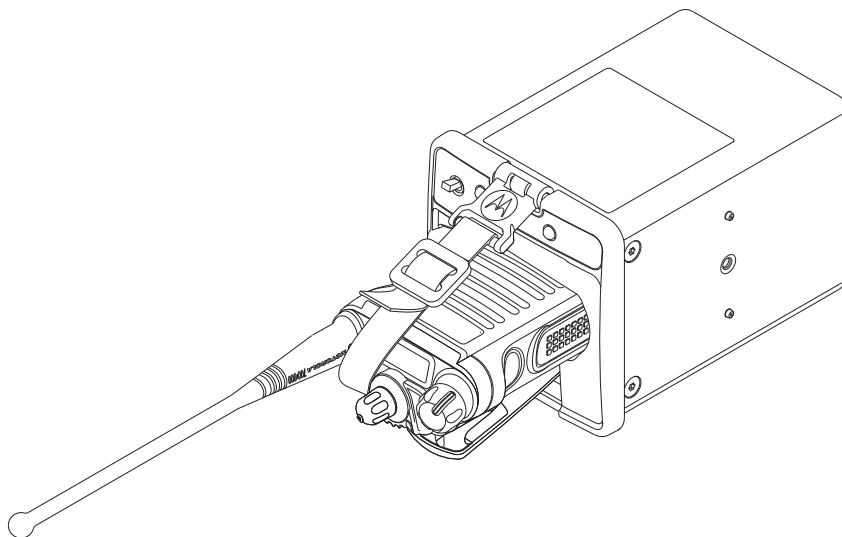

Figure 4 . Radio with Battery, Antenna, PSM or RFA Attached
5. For radios with an antenna installed, loop the strap between the base of the antenna and base of the channel selector, and then engage the latch onto the Top Engagement Bar on the Faceplate. Adjust the strap through the Tri-Glide to secure radio with battery attached within the Vehicular Charger (refer to Figure 4).
For radios with a Public Safety Microphone (PSM) and RF Adapter installed, adjust the strap through the Tri-Glide to secure radio with battery attached within the Vehicular Charger (refer to Figure 4).
When the radio/battery are in the charger pocket, fasten the safety strap as shown in Figure 4. If a battery alone is in the pocket, fasten securely as shown in Figure 5 or 7. This will prevent the battery from being shaken out of the charger during rough traveling conditions, and will also prevent it from becoming a dangerous projectile in the event of a vehicle crash.